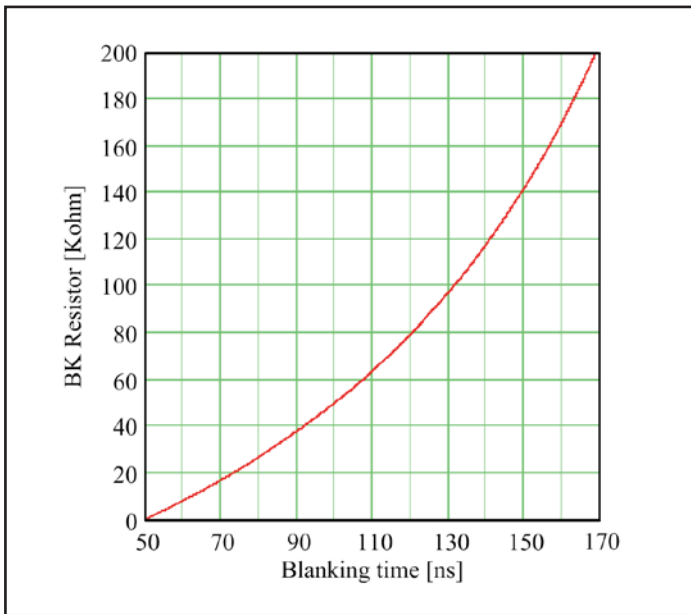

Figure 5 –BK Resistor selection versus Blanking Time
3.1 The blanking timer provides noise filtering for typical switching power conversion that might cause premature reverse current detection by masking the reverse fault condition. The shortest blanking time is 50 ns when the BK pin is connected to ground. Connecting an external resistor (R_{BK} , reference designators R7 for U1 and R14 for U2) between the BK pin and ground will increase the blanking time as shown in Figure 5.